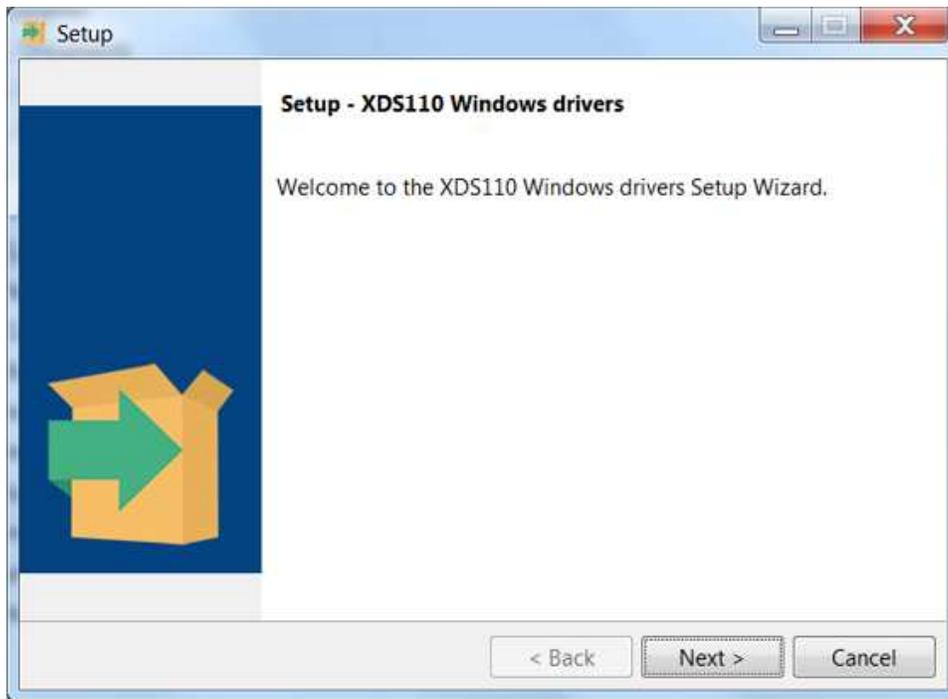

Figure 1-7. Set up XDS110
1. Run the installer in administrator mode and click Next, as shown in Figure 1-7.